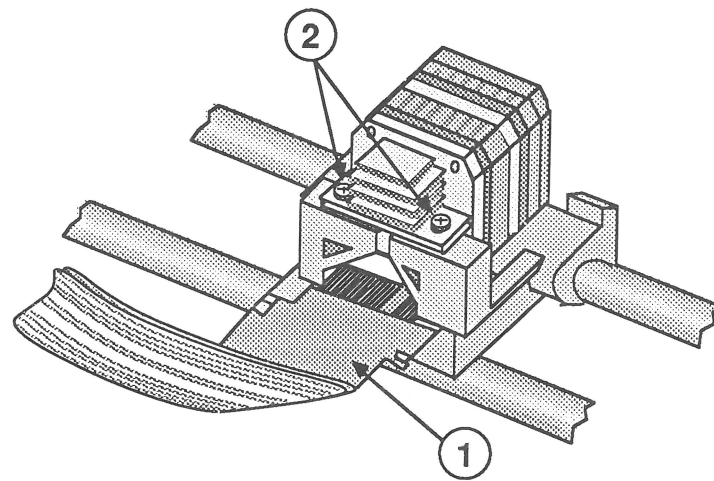

FIGURE 14
3. Remove the flexible PCB holder (Figure 14, #1).
4. Remove the two Phillips screws (Figure 14, #2) holding the print head to the carrier assembly.